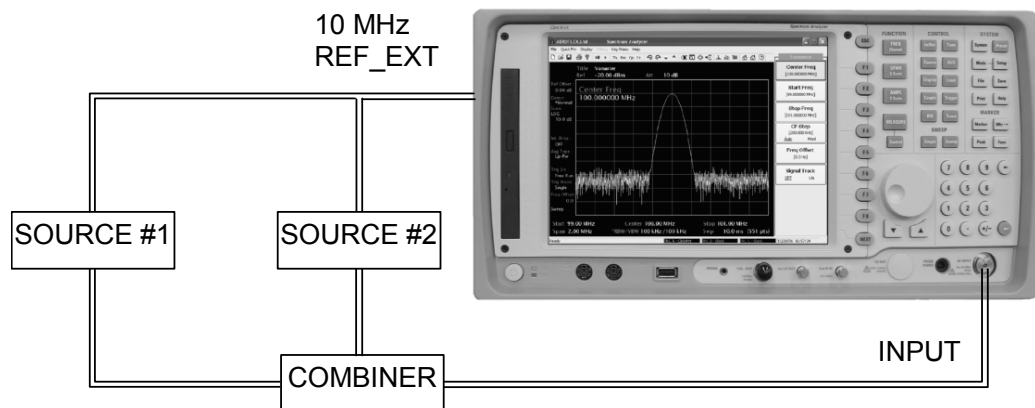

Fig. B-3 Setup for obtaining two signals
- 1 Connect two sources to the analyzer's RF INPUT as shown in Fig. B-3.
- 1 To obtain two signals with a 200 kHz separation, connect the equipment as shown in Fig. B-3. Set one source to 300 MHz at 0 dBm.